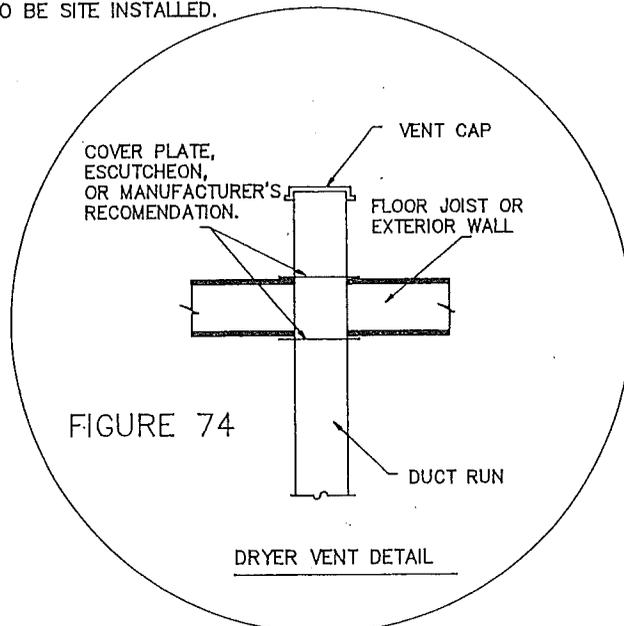

FIGURE 74
2. Access to rough in from outside may be located on the bottom side of the floor or on an exterior wall. See Figure 74.